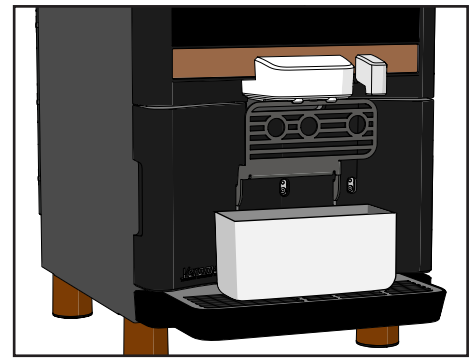

Figure 27.
4. Flip up the cup tray and place a container under the spouts (see Figure 27).